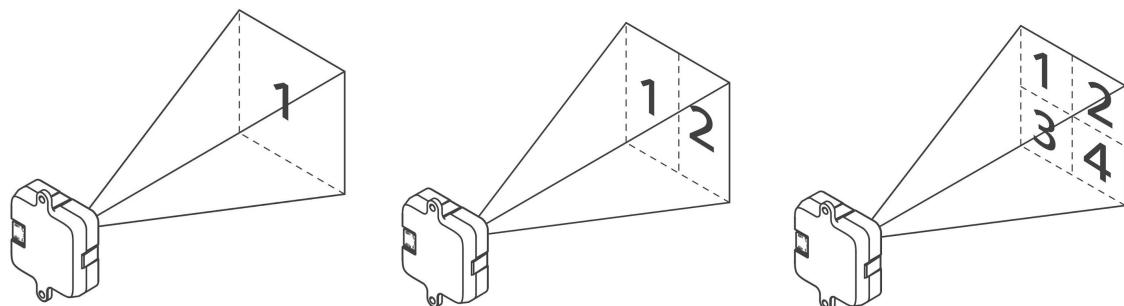

Figure 15 - 1px mode (left), 2px mode (center), 4px mode (right)
When in 2px mode, the TeraRanger Evo Mini returns **2 distance measurements** in millimeters, with a 20° Field of View in the diagonal. Figure 15 shows the pixel layout and the order in which the measurements are streamed from the sensor.
When in 4px mode (2x2), the TeraRanger Evo Mini returns **4 distance measurements** in millimeters. Each measurement (pixel) has a 13.5° Field of View, which represents an area of 24 cm x 24 cm at 1 m range. Figure 15 shows the pixel layout and the order in which the measurements are streamed from the sensor.
*The pixel layout shown in Figure 15 both gives information regarding the position of each pixel in space, and regarding the order in which the distances are displayed (Pixel 1 = first distance output, Pixel 2 = second distance output,...)*